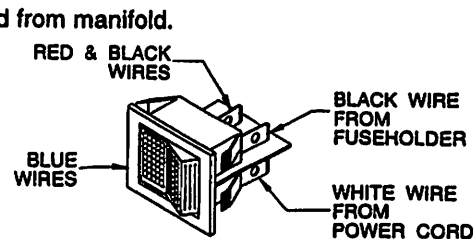

Fig. 5.2
3. Disconnect wires from four terminals on power switch. Note orientation of switch for reassembly. See Fig. 5.2.
*Note: Make sure the wires are correctly reconnected to power switch. Blue wires to lower terminal. Black and red wires to upper terminal. See **Fig. 5.2**.*